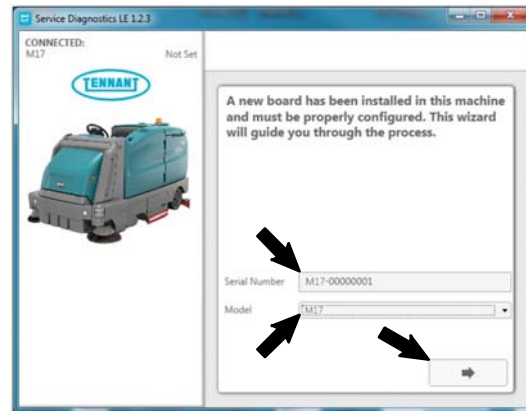

FIG. 15
5. The following screen appears when the application software is connected to machine (Fig. 15). Enter the machine serial number from the label on machine (ex. M17-12345678). Select the appropriate model from the drop-down menu. Press the arrow button to advance to next screen.